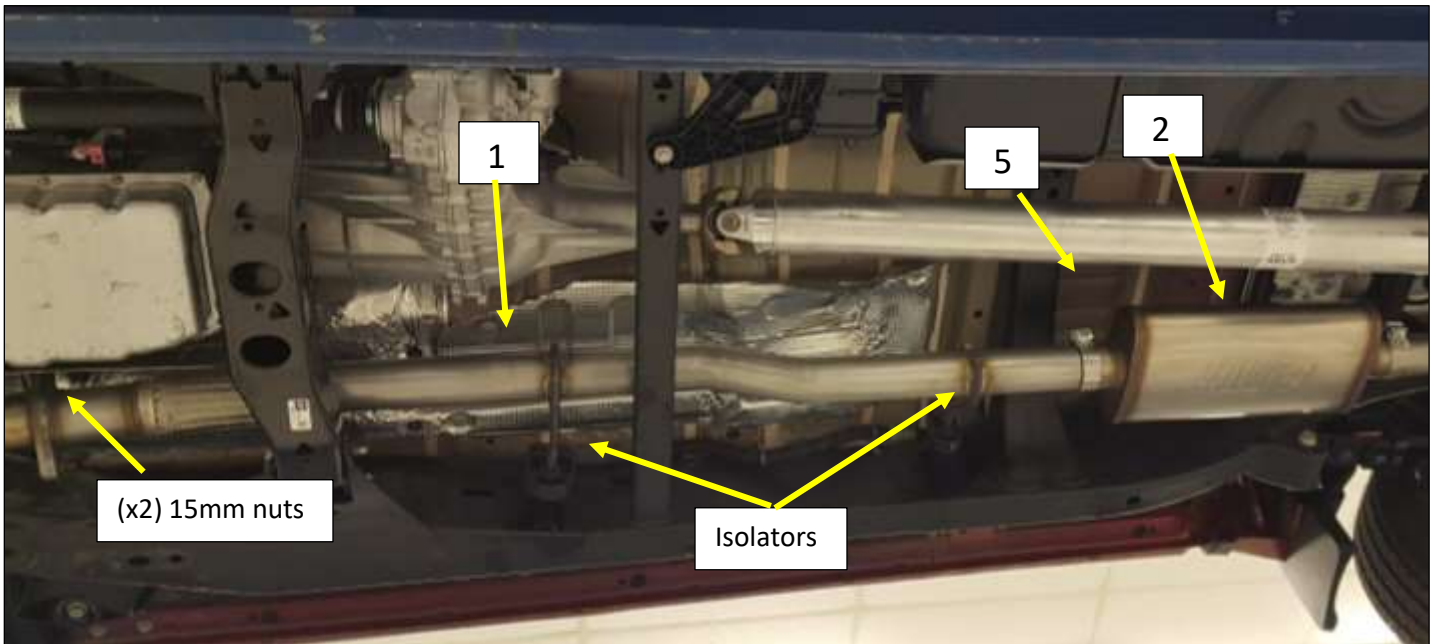

Figure 5
8. Install the Flowmaster Muffler inlet pipe (1) into the vehicle and on to the studs at the catalytic converter 2-bolt flange. **Fig. 5**
9. Install the hanger rods into the isolators. **Fig. 5**
10. Install the (x2) 15mm nuts on to the studs at the 2-bolt flange and tighten. **Fig. 5**
11. Install a supplied 3.0" band clamp (5) on to the muffler inlet with the bolt at the top and the nut facing the ground. **Fig. 5**
12. Install the muffler (2) on to the muffler inlet pipe (1) and level with the ground and Flow FX Logo running front to back. Tighten the clamp to allow for adjustment. Support the muffler with a jack stand. **Fig. 5**
16. Install the tailpipe on to the muffler outlet pipe and install the hanger rod into the isolator. **Fig. 5**